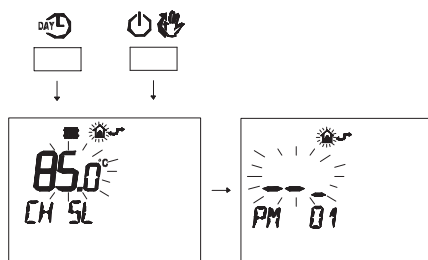

Fig. 7.29
- Press buttons **DAY** and **ON/OFF** at the same time to enter transparent programming (Fig. 7.29).